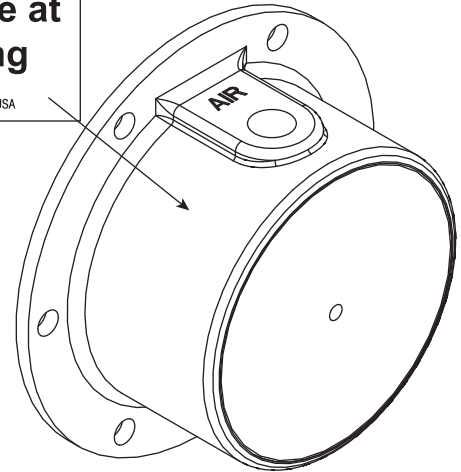

Figure 8. Recommended decal mounting location
- If decal L918 is included in the literature packet, install it on the hubcap as shown in figure 8.